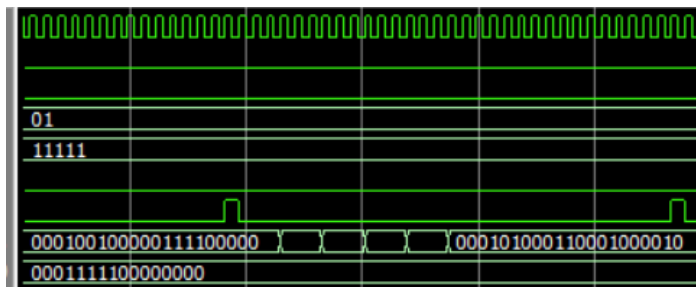

Fig. 29 First and second simulation results
- $2^*e^{0.24184} = 00010.1000110001000010$ (Fig 29)